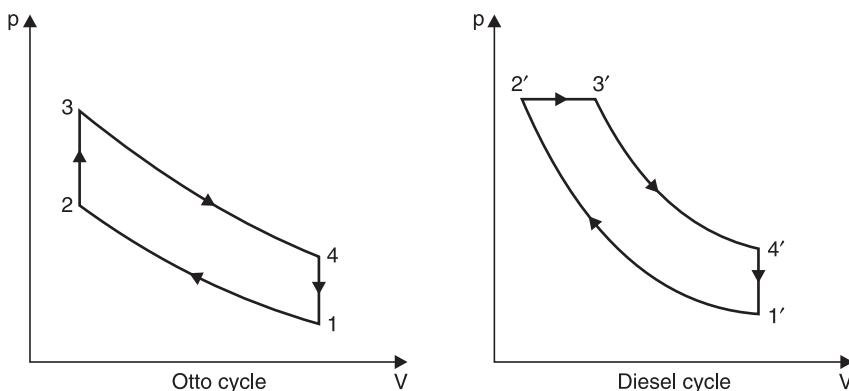

Fig. 4.14
**Solution.** Refer to Fig. 4.14.